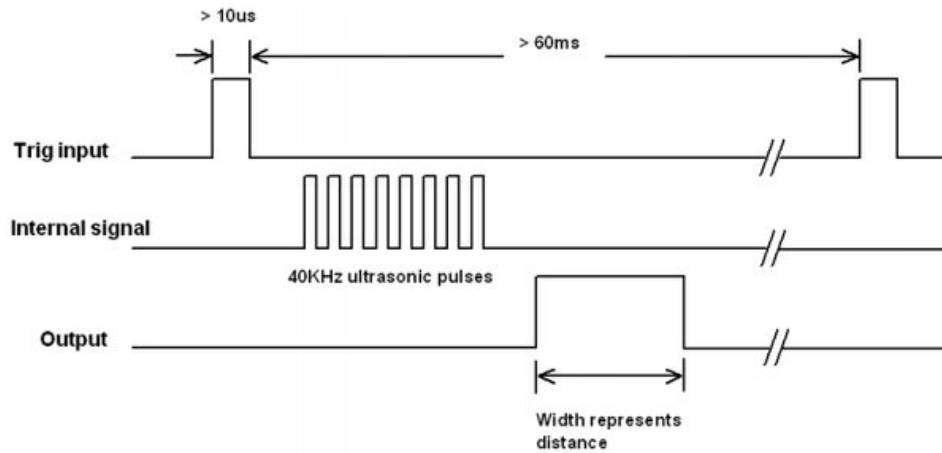

Figure 3: Timing Diagram for HC-SR04
- As soon as all eight pulses are transmitted through the air, the echo pin goes high. In other words, the output echo pin makes transition from an active low to active high level as shown in Fig. 3.